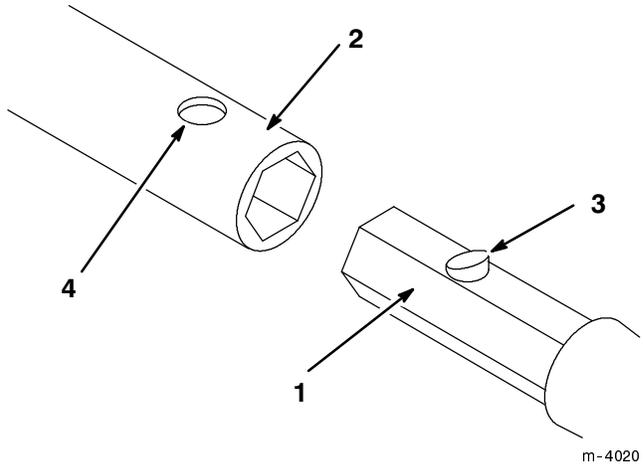

Figure 2
2. Slide the hex shaft of a rod, boring bit, or reamer into the socket. Align the hole in the socket with the push button connector (Fig. 2).
3. Press down the push button connector and push the shaft into the socket until the connector snaps into the hole in the socket (Fig. 2).